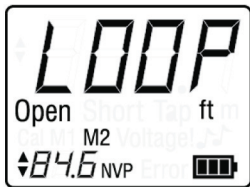

Figure 4-6. LCD display screen in loop testing.
4. Press and hold down the TEST button for two seconds to run a continuous test. The following values and icons appear in the LCD display screen (see Figure 4-6):